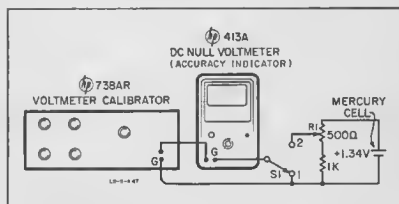

Figure 5-7. Preliminary Test Setup
a. Connect a voltage calibration generator to a 313A or 412A test voltmeter and battery circuit as shown in figure 5-7. This test voltmeter will hereafter be called the accuracy indicator.
b. Set S1 in figure 5-7 to position 1.
f. If the accuracy indicator has a zero control (as in figures 5-7 and 5-8), adjust the ZERO control for zero on the meter. At the same time set S1 to position 2 and voltmeter calibrator function switch to DC+.